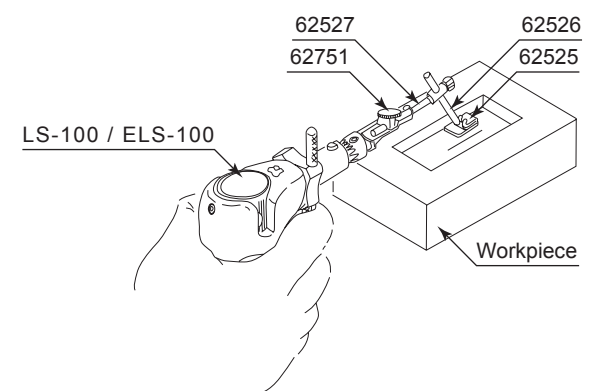

Fig. 10
- Finishing of grooves (Fig. 10)